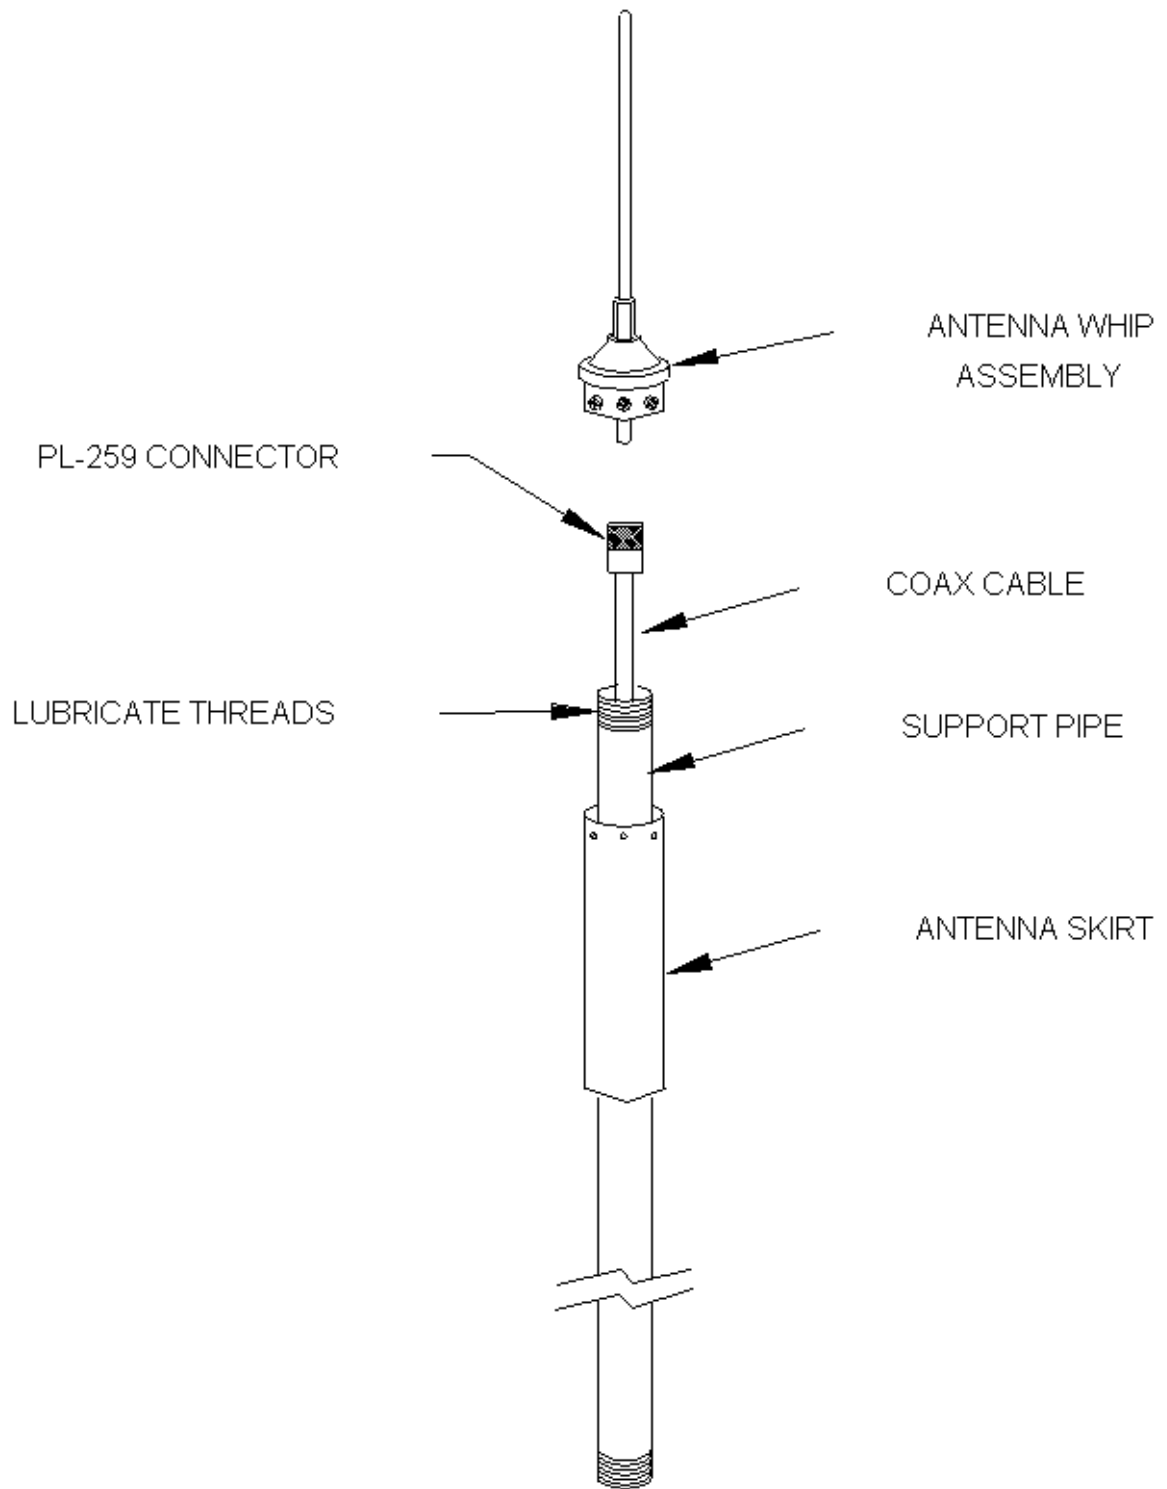

Figure 1
1. Slip **Antenna Skirt** over **Support Pipe** as shown in **Figure 1**.